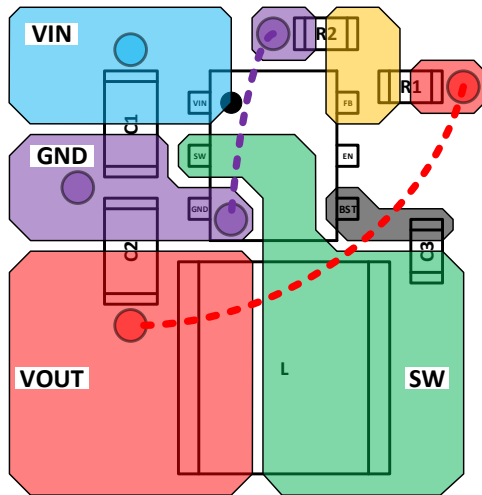

Figure 27. Recommended PCB Layout, SOT563 Package
9. See Figure 27 and Figure 28 for more details.